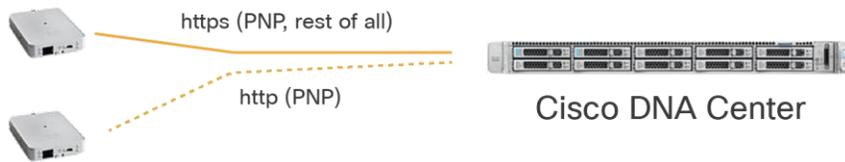

Figure 10.
- Sensor test results traverse directly from the sensor to Cisco DNA Center (**Figure 10**).